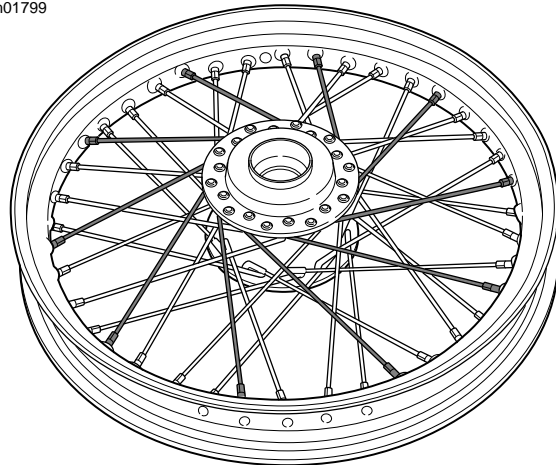

Figure 2-57. Completed Spokes-Top Flange Outer
16. See Figure 2-57. Verify spoke reaches spoke nipple and secure spoke by hand. Follow pattern to complete top flange outer spokes (short-head).